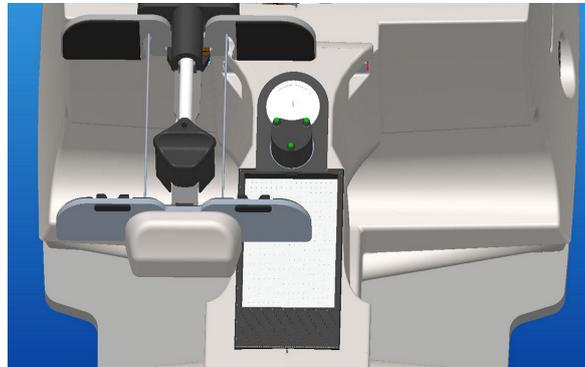

Figure 5: Single Lens Loading
- Select single lens acquisition type. Single lens support will lift up as shown in Figure 5.